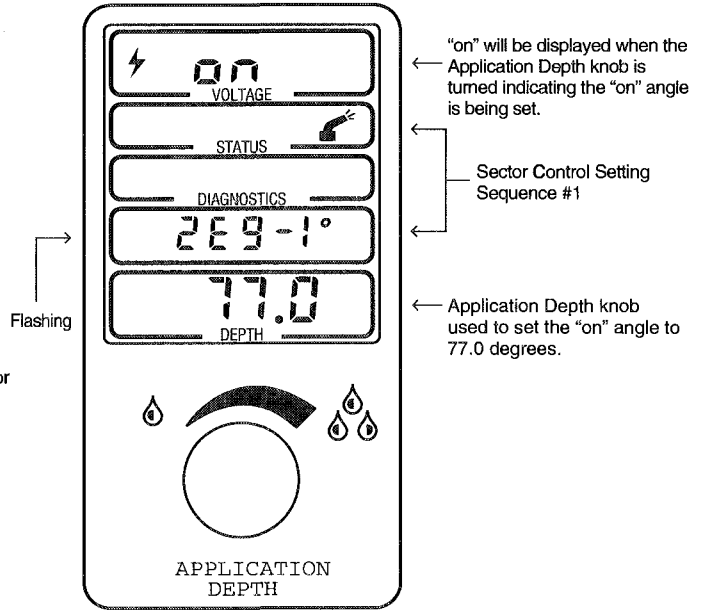

Figure 2.18
1. Turn the knob to select the value of the first "on" angle (77 degrees in this example). Notice that the area of the screen in figure 2.18 which shows the value of the angle setting will be blank until the operator turns the knob. It will then display values starting from zero degrees and is adjusted from 0 degrees by turning the knob to either increase or decrease the angle value. "on" is also displayed in the top screen to remind the operator that an "on" angle is being set. "on" will change to "OFF" as soon as the SELECT button is pressed.